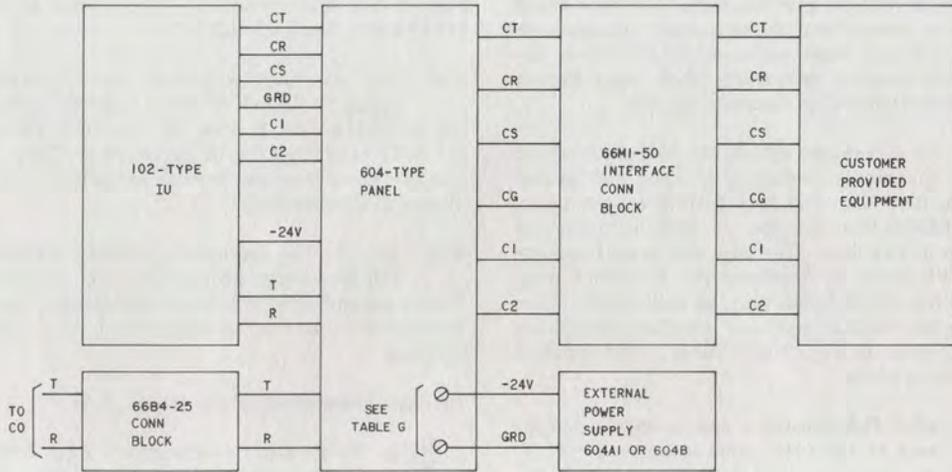

Fig. 7—Block Diagram—102-Type Interconnecting Unit With 604-Type Panel
3.06 If an external telephone company-provided power supply is used (604A1, 604B or 604C only), or CP dc power supplied through the KS-20944 protector, connect to fuse panel on rear of 604A1, 604B, and 604C as shown in Fig. 7 and Table G (use 16-gauge or equivalent twisted pair). The 604A, 604B, and 604C panels operate on externally supplied -24 volts. The 604B can be adapted to -48 volt operation by putting the option straps in the down position. The 604C can be adapted to -48 volt operation by adding a 21A apparatus unit and putting the option straps in
3.25 ◆When voltage protection is required, the KS-20944 protector must be mounted externally and wired to the power supply terminals of the 604-type and 615A panel. (See Fig. 7 and 8.)